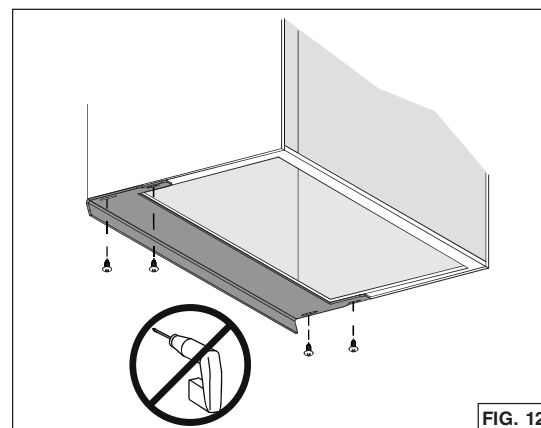

FIG. 12
8. There are 3 different sizes of filler included with these units, designed to fit up to 13-in. depth cabinets. For up to 15-in. depth cabinets, another set of 4 fillers is available (for BBN2243SS unit, order: HADTBN24, for BBN2303SS: order HADTBN30). Choose the filler that fits to cover the back bottom edge of the cabinet. Use 4 no. 6 x 3/4" truss head wood screws (included) to mount it (FIG. 12).